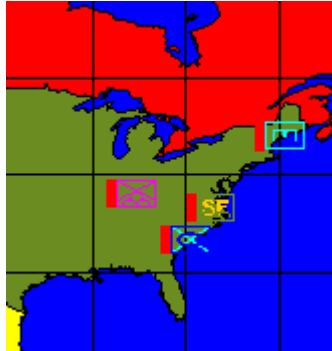

Figure 5.94 Force Module Symbols
4. On the Force Modules: Time window, select the parameters for when and how the progress of the selected force modules is displayed on the pie graph window. The ETEdit (map) window displays force module symbols (Figure 5.94).